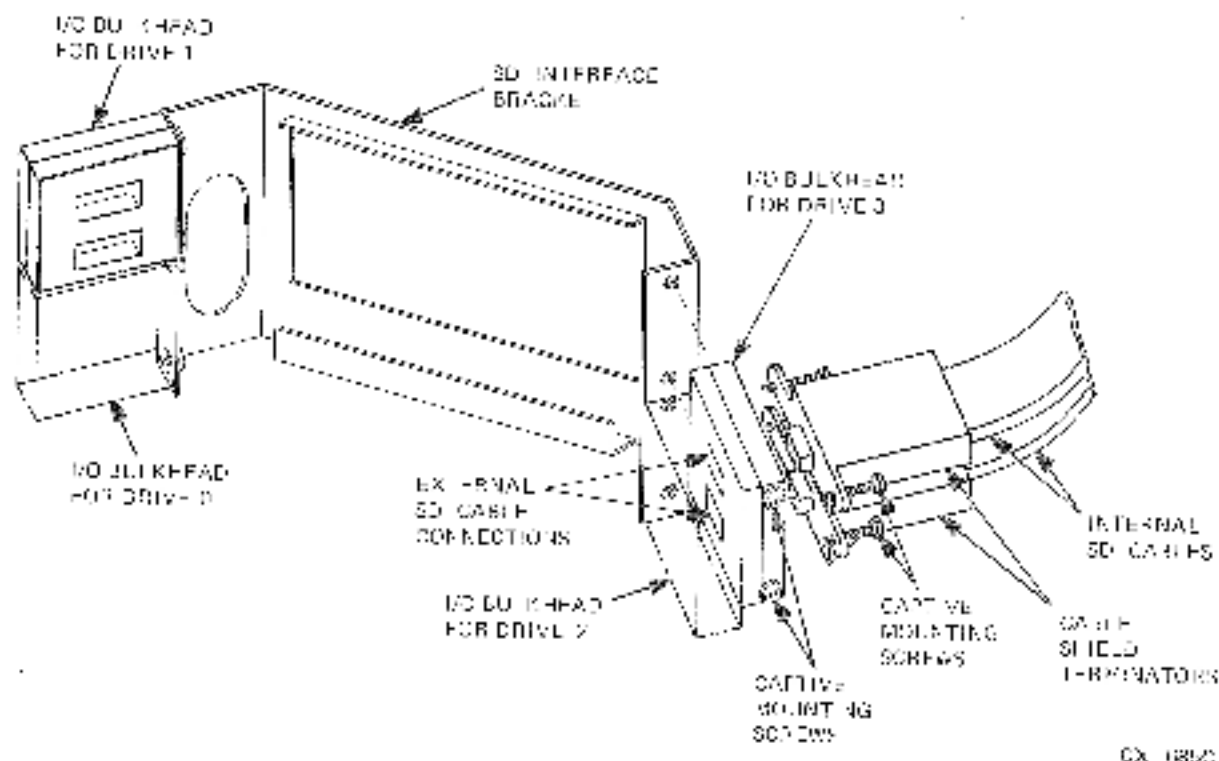

Figure 6-19 I/O Bulkhead Mounting
Locate the I/O bulkhead that came with the add-on disk drive (it should be attached to the end of the SDI cable). Based on drive position, each I/O bulkhead must be mounted in a designated location on the SDI interface bracket. Using the two captive screws, mount the I/O bulkhead to the SDI interface bracket at the rear base of the drive cabinet as shown in Figure 6-19.
External SDI cables from the central processing unit (CPU) or controller cabinet are connected to the *inside* of the I/O bulkhead (opposite side of the SDI interface bracket from the internal SDI cables). Refer to Figure 6-19.
1. Install the bottom end of the SDI cable (end with I/O bulkhead) from the first add-on drive into the SDI interface bracket at the base of the cabinet. Using the two captive screws, mount the I/O bulkhead in the internal SDI cable position designated for Drive 2 (Figure 6-19). Make sure drive port cable A plugs into the A connector and the port cable B plugs into the B connector of the I/O bulkhead.
1. Install the bottom end of the SDI cable (end with I/O bulkhead) from the second add-on drive into the SDI interface bracket at the base of the cabinet. Using the two captive screws, mount the I/O bulkhead in the internal SDI cable position designated for Drive 3 (Figure 6-19). Make sure the drive port cable A plugs into the A connector and the B port cable plugs into the B connector of the I/O bulkhead.